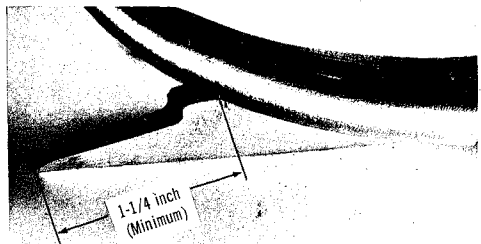

Fig. 22 — Gaff Sharpened to Minimum Length
8.01 When climber gaffs need sharpening and the required sharpness cannot be obtained as described in Part 7, the craftsman shall exchange the leg irons for a pair in good condition. The straps and pads, also the *sleeves unless they are riveted, shall be removed and retained for re-use on the exchange leg irons*. The leg irons to be returned shall be equipped with gaff guards and taped or otherwise tied together. (Fig. 22 illustrates a gaff that has been machine sharpened a number of times, to the minimum length that shall be used).